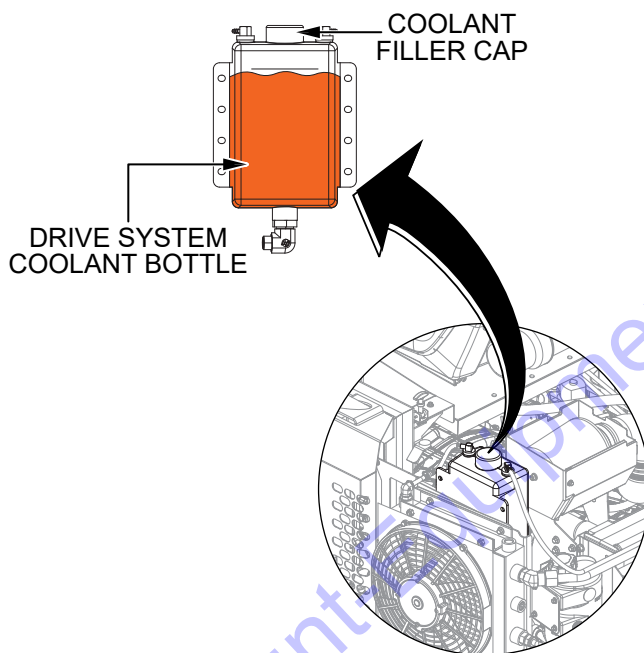

Figure 26. Drive System Coolant Bottle
2. Visually inspect the level of drive system coolant in the coolant bottle (Figure 26).